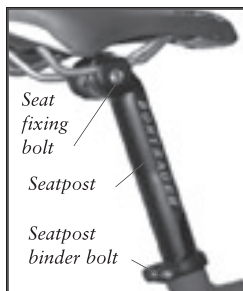

Figure 2- Seatpost parts
The seat, the part you sit on when riding a bike, is held in place by the seatpost (Figure 2). The seatpost binder secures the seatpost in the frame. Proper adjustment of each component is important for your comfort and pedaling efficiency. This section explains how to inspect, adjust, and lubricate your seatpost.
Every month inspect the seatpost quick-release lever, or seat post binder bolt, and seat fixing bolt (Figure 2) for proper tightness. Make sure the seat is secure by attempting to turn the seat and seatpost in the frame, and attempt to move the front of the seat up and down. If the seat rotates, is loose, or moves up and down, tighten the binder bolt or quick-release, or seat fixing bolt, and repeat the test. Never engage the seatpost binder with the seatpost out of the frame.
- Seat post binder (Figure 2): 85-125 lb•in (9.6-14.1 Nm), or 65-80 lb•in (7.3-9 Nm) for a carbon fiber seatpost.